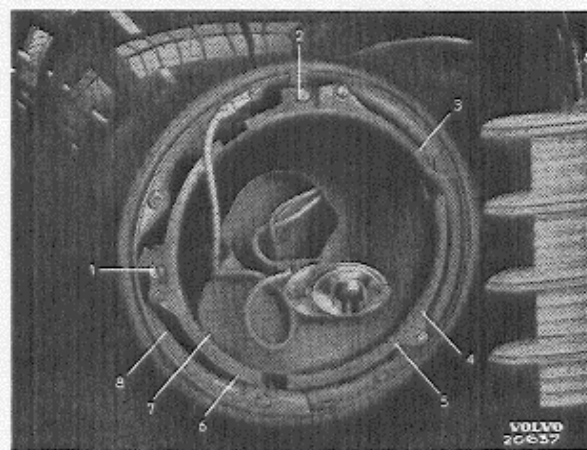

Fig. 16. Early production.
5. Loosen the adjustment screws (1 and 2 figs. 16 and 17) for headlight alignment, 8—10 turns. Unhook the springs (3—6) from the mounting bowl (7). Remove the bowl from the holder (8).